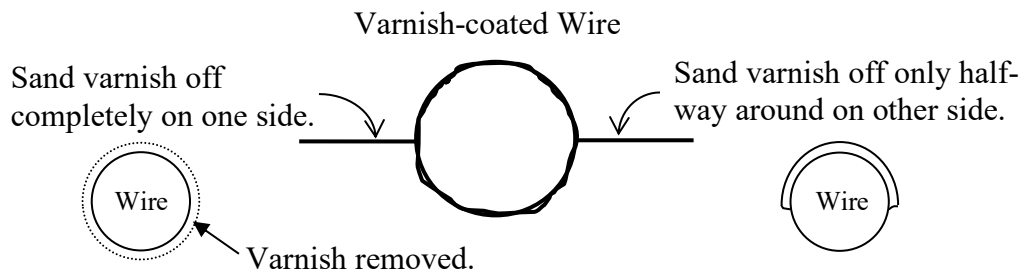

Fig. 6: Wire loop with the varnish properly sanded from the straight sections.
2. Using the instructor’s model as a guide, form a wire coil according to your choices from Step 1. To make a nice circular coil, wrap the wire around a cylinder having the diameter of your choice and then slide the cylinder out of the coil. Be sure to leave two straight ends about 2-3 cm long sticking out on opposite sides as shown in Fig. 6 on the next page.
4. With the sandpaper, sand the varnish coating completely off one of the straight ends from the end of the wire to the loop as in Fig. 6 below.